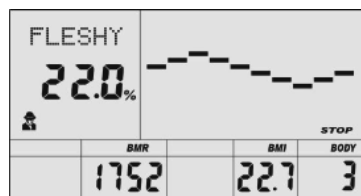

Fig 40
- ① During the body fat measurement, place both your palms on the pulse sensor pads. The test result is: FAT%, BMR (Basal Metabolic Rate), BMI (Body Mass Index), BODY and body shape. (See Fig 40)